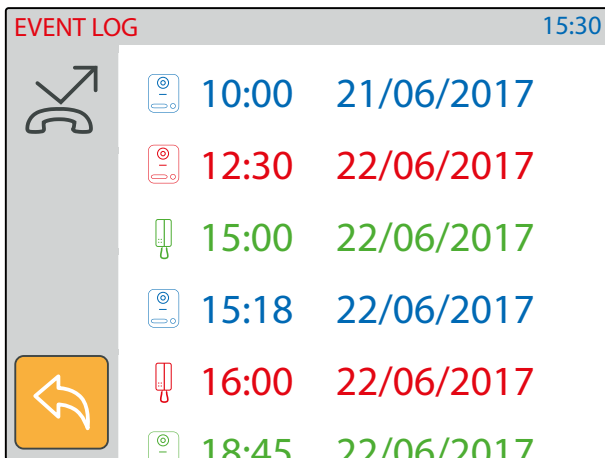

Fig. 61 Events list
- Tap on the event log icon (Fig. 61).